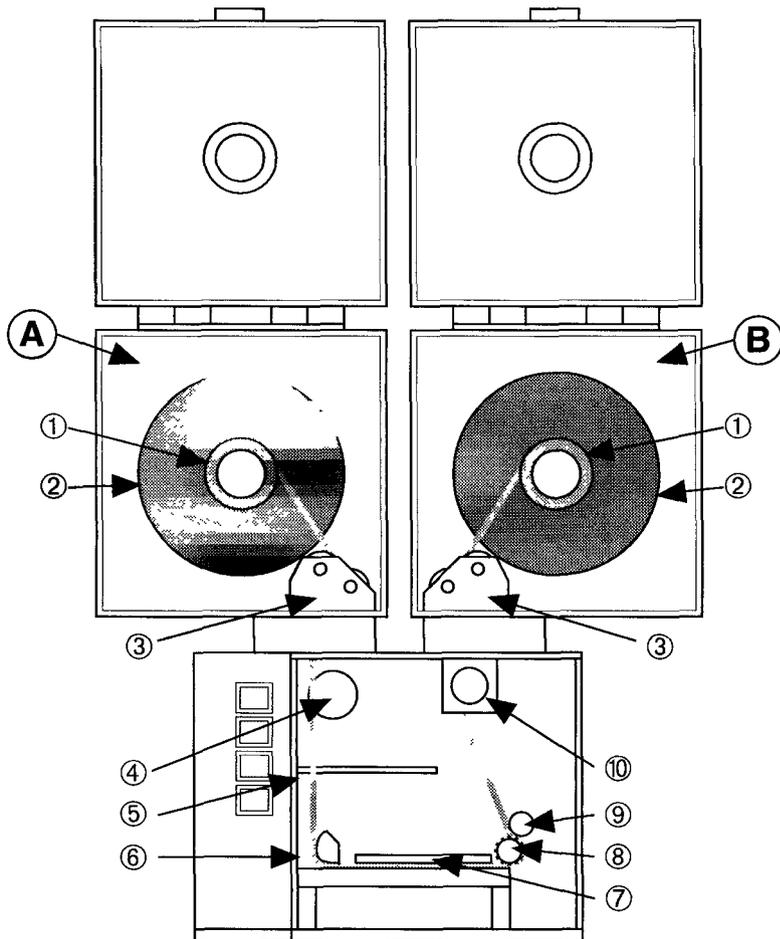

Figure 3. Parts of the 35mm bulk load camera module.
Figure 3 on page 8 identifies the parts of the module and shows the film path.
Figure 3 identifies the parts of the camera module and shows the film path.
- Step 3: Pull the film into the magazine and use a piece of tape to attach the end to the plastic core. Attach the film so that it will wind in a counterclockwise direction. See Figure 3.